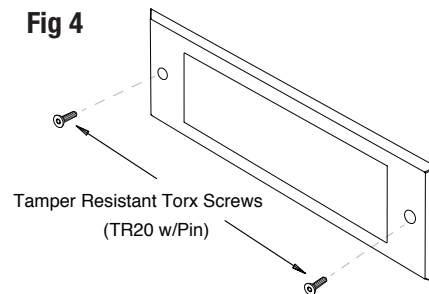

Fig 4
4. Reinstall Splatter Shield and all contents using the (2) 8-32 screws provided. **Fig 4**
4. For additional Composite or Topcoat finish, again ensure front of Back Box is flush with finished wall face. **Fig 4**
- Optional Tamper Resistant Screws (TRS) can be used for additional security using Torx Pin screws, painted to complement the faceplate. **Fig 4**